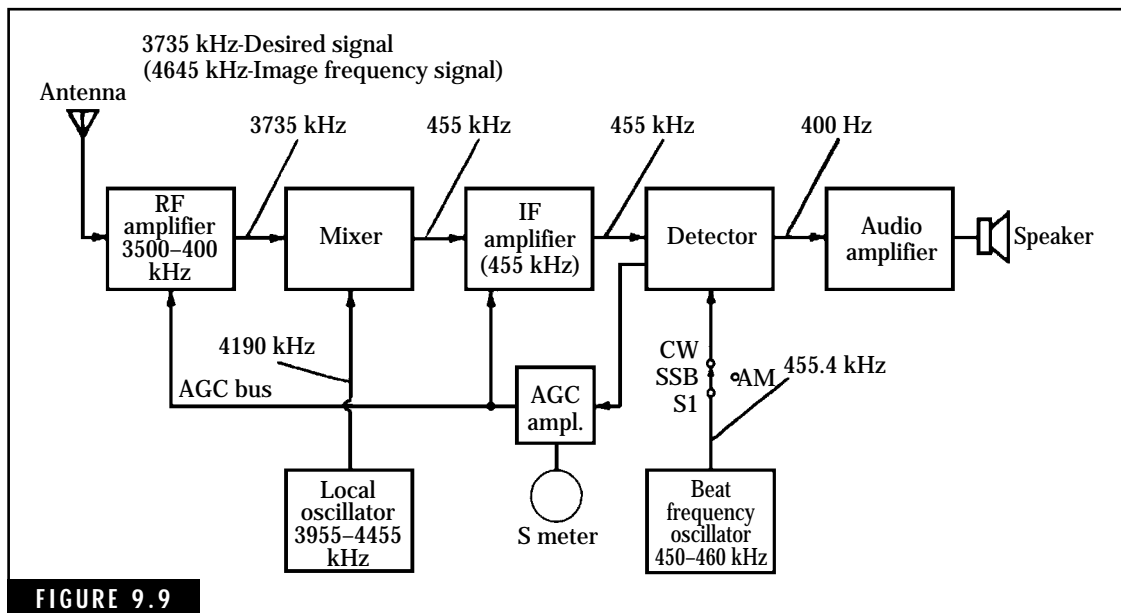

FIGURE 9.9
The primary difference between the TRF and superheterodyne receivers is the conversion of the incoming RF signal to an intermediate-frequency (IF) signal by the superheterodyne receiver. Figure 9.9
To understand the operation of the superheterodyne receiver, each stage is discussed in detail. The superheterodyne receiver shown in Fig. 9.9 indicates operation in the 80-meter band. However, any amateur band could have been selected for this example. Band switching circuits in the RF and local-oscillator stages provide for operation on 80 through 10 meters in most amateur HF receivers and transceivers. Sometimes the tuning capacitors in the RF and local-oscillator stages are ganged for single-knob tuning to the desired frequency of operation. For example, the RF stage in Fig. 9.9 can be tuned from 3500 to 4000 kHz while the local-oscillator frequency ranges from 3955 to 4455 kHz. At any frequency within the 80-meter band, the local-oscillator frequency is 455 kHz above that of the incoming RF signal.
When switch S1 in Fig. 9.9 is set to the CW/SSB position, either CW or SSB signals can be received. In the AM position, the beat-frequency oscillator is disabled and the receiver will receive conventional AM signals. An automatic gain control (AGC) amplifier is
The second advantage of the RF amplifier is that it attenuates unwanted image signals appearing at the antenna terminals. The image signal frequency differs from the desired signal frequency by twice the IF frequency. In Fig. 9.9, the desired signal frequency is 3735 kHz and the image frequency is 4645 kHz (or 3735 kHz plus 2×455 kHz). If allowed to reach the mixer stage, the 4645-kHz image signal would mix with the 4190-kHz local-oscillator signal and produce another 455-kHz signal into the IF amplifier. The ratio of the desired signal level to that of the image frequency signal level is called the image rejection ratio.